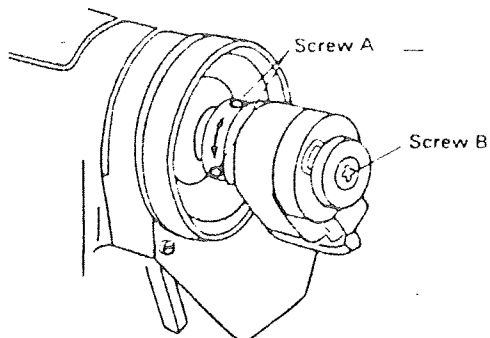
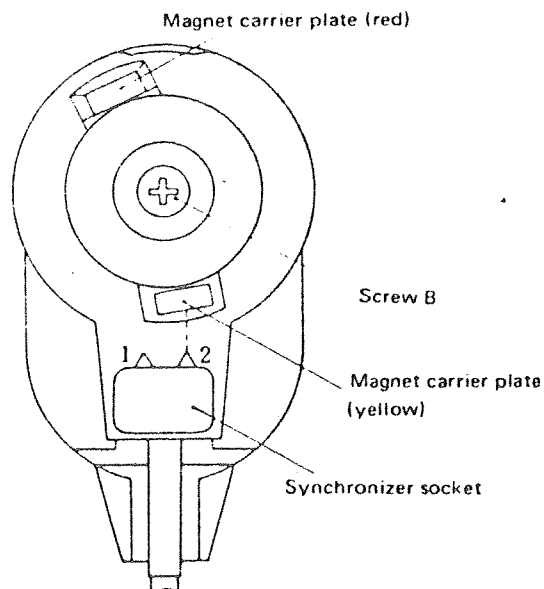

Fig. 4
Fig. 5
Remove cover from synchronizer and turn its collar to set the yellow magnet carrier plate at position 2 on the synchronizer socket (Fig. 5) and tighten two screws A temporarily. DO NOT LOOSEN screw B as shown in Fig. 4 & 5, as the relative relation of 2 pcs of magnet carrier plates has been set at the factory prior to the delivery.
Adjustment of the synchronizer can be done by loosening two screws "A" as illustrated in Fig. 4. Under no circumstances should the screw "B" be loosened, otherwise the setting of magnet carrier plates, previously set at the factory, gets disturbed.
- 1) Turn the machine to the "needle down" position, and set the red magnet carrier plate to position 1 on the synchronizer socket (Fig. 5).